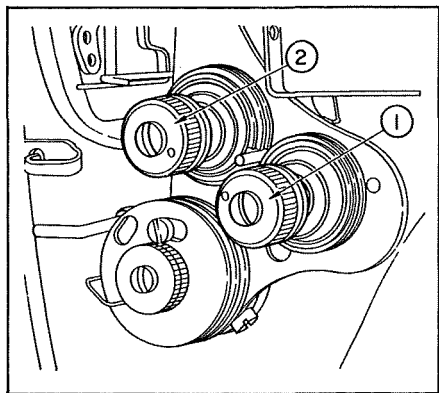

Fig. 11
For obtaining optimum needle thread tension, turn the thread tension post nut ① of Fig.11 for the right hand needle thread and the nut ② for the left hand needle thread. The thread tension will be increased by clockwise turn and decreased by counterclockwise turn.